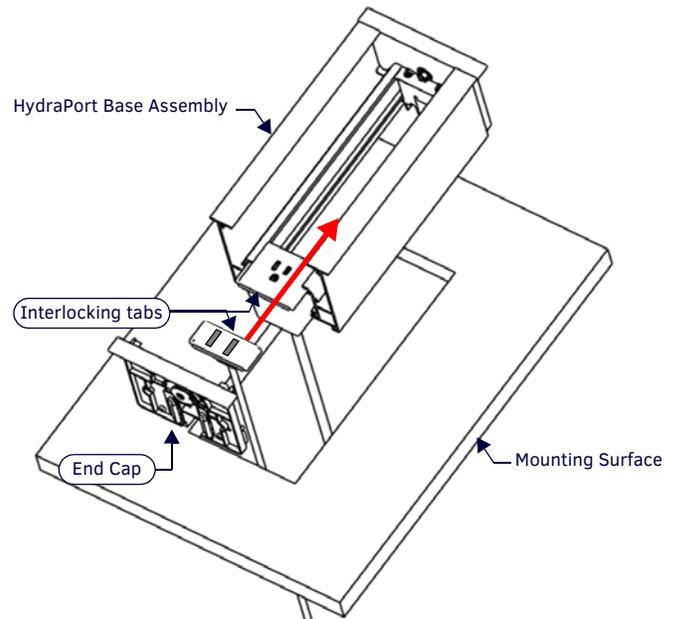

FIG. 9 INSTALLING THE HPX-U100-2BTN MODULE
1. Orient the module relative to the HydraPort base assembly so that the Module's faceplate is facing up, towards the mounting surface (FIG. 9).